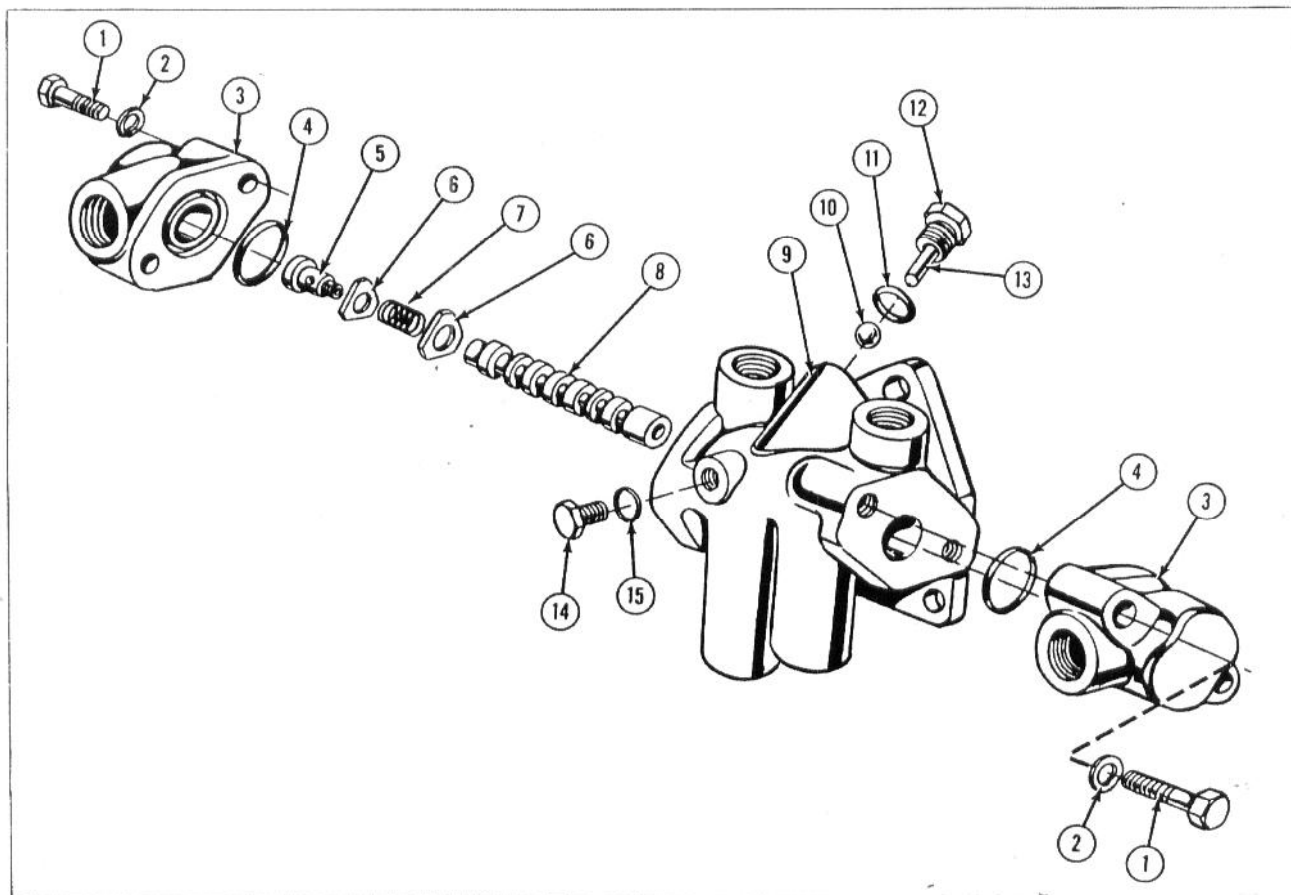

FIG. 26 — EXPLODED VIEW OF STEERING VALVE
4. Check plug assembly, No. 12, Fig. 26, for nicked or burred threads and damage to the roll pin, No. 13. Check steel ball, No. 10, for pits and scratches.
5. Check plug, No. 14, Fig. 26, for nicked or burred threads.
6. Inspect spring retaining screw, No. 5, Fig. 26, for obstructions and damage to the threads. Check that centering spring, No. 7, is not broken.
7. Inspect end caps, No. 3, Fig. 26, for damage to the mating surfaces and "O"-ring grooves. Check the threaded ports for nicks, burrs, and obstructions.
8. Check tie bolts, No. 1, Fig. 26, for nicked or burred threads.
Refer to Fig. 26. Thoroughly saturate new "O"-rings, Nos. 4, 11 and 15, in clean hydraulic oil.
9. Torque tie bolts, No. 1, Fig. 26, to 22-27 ft.-lbs.